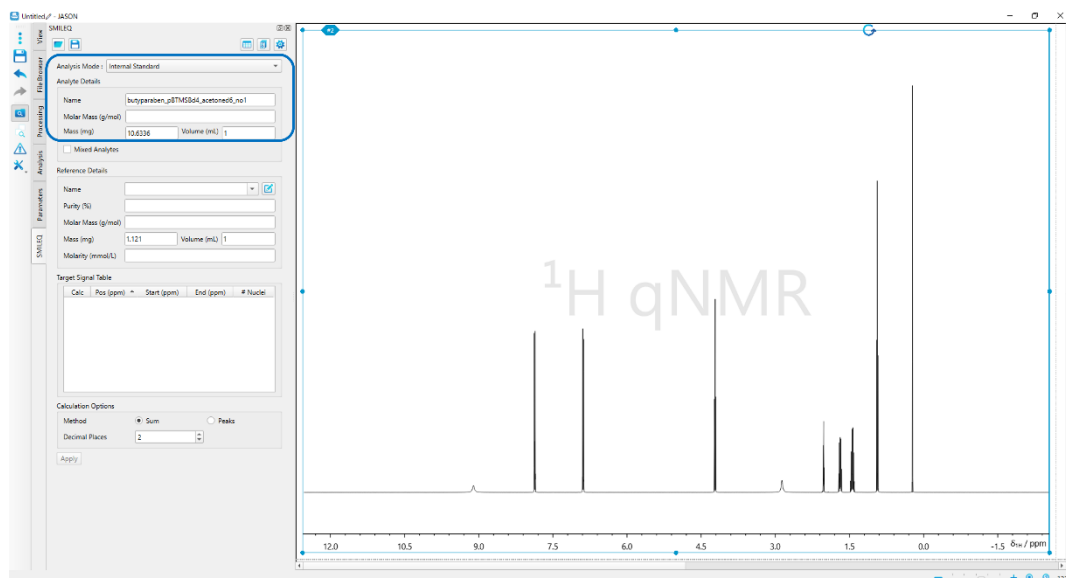

Figure 27: SMILEQ widget after conducting multiplet analysis
2. Select the SMILEQ widget and enter the required parameters in the sample information area (see section 2.1.1.1 for details of the necessary information and Figure 27).